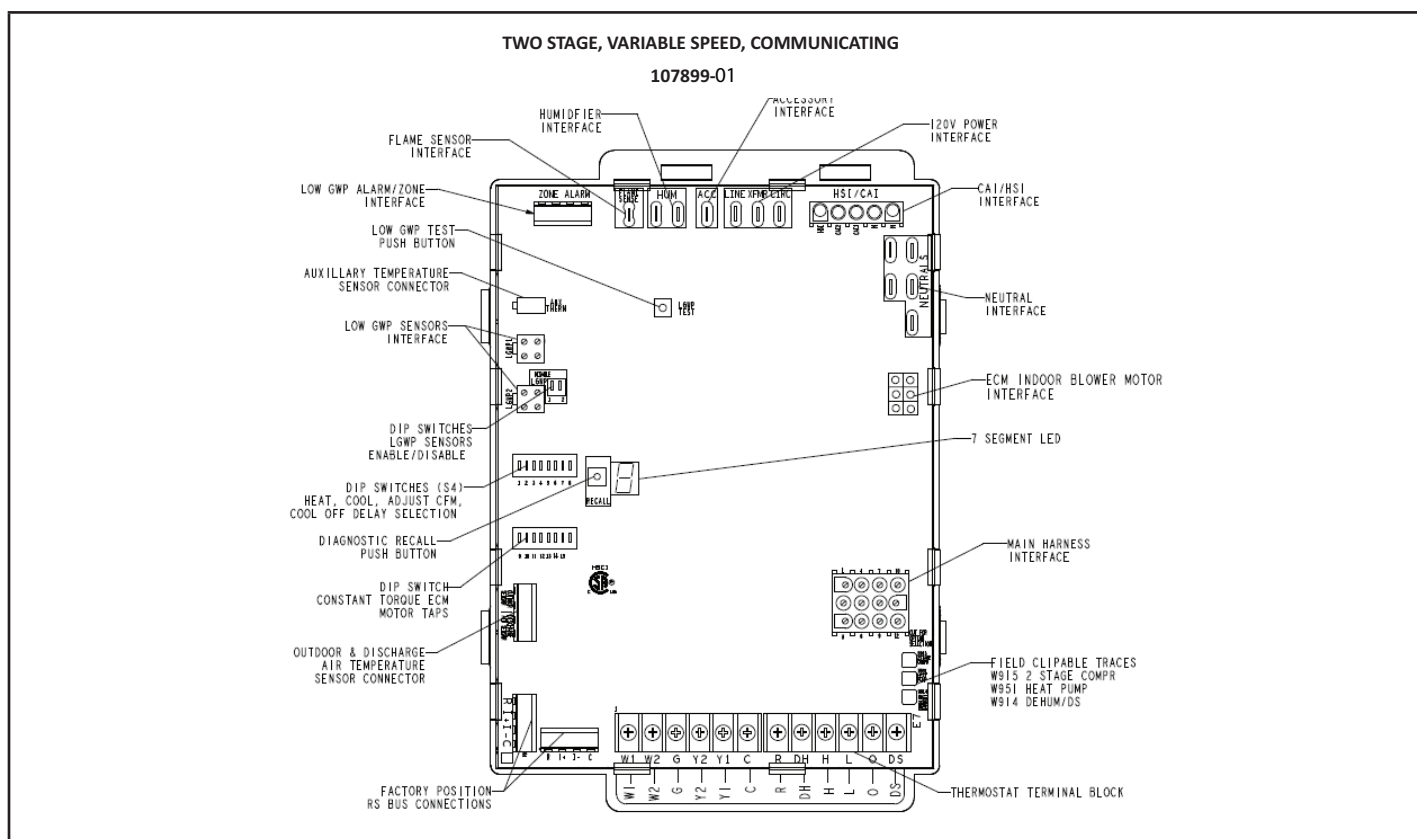

FIGURE 28
- 7 - One line voltage "ACC" 1/4" spade terminal is provided on the furnace integrated control. Any electronic air cleaner or other accessory rated up to one amp can be connected to this terminal with the neutral leg of the circuit being connected to the one of the provided neutral terminals. See FIGURE 28 for control configuration. This terminal is energized when the indoor blower is operating.